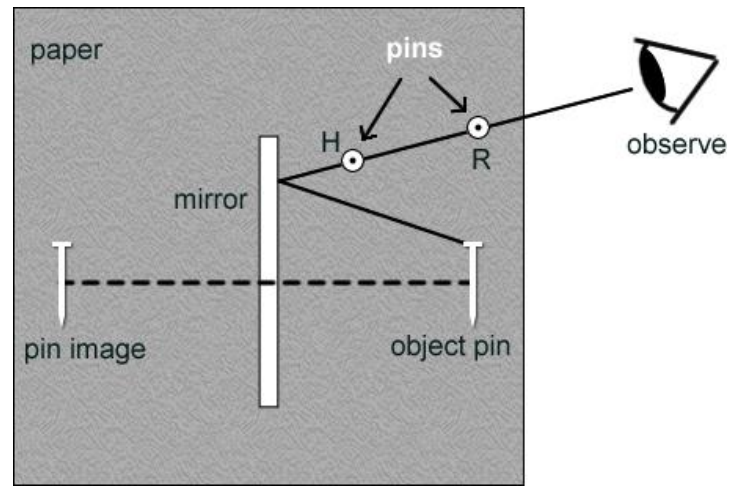

Figure 11.4
1. Place the mirror near the center of a sheet of paper as with the glass plate used previously. Prop the mirror up or use a holder so that it sits vertically. Draw a line along the reflective silver side of the mirror. Then lay an object pin about 10 cm in front of the mirror and parallel to its length Figure 11.4)